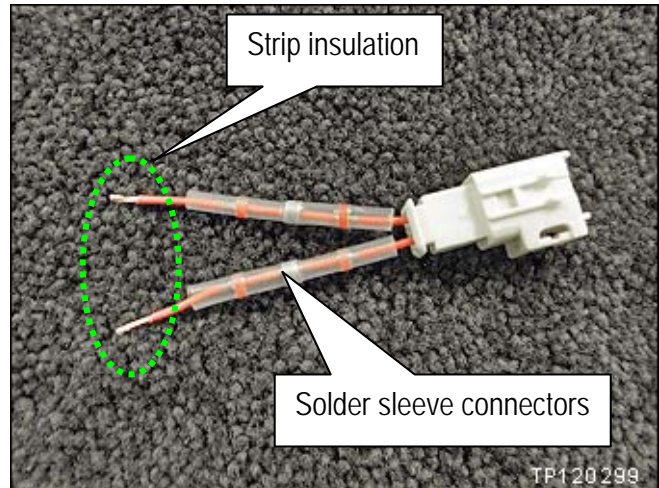

Figure CR15
- Slide solder sleeve connectors onto the connector wires as show in Figure CR15.